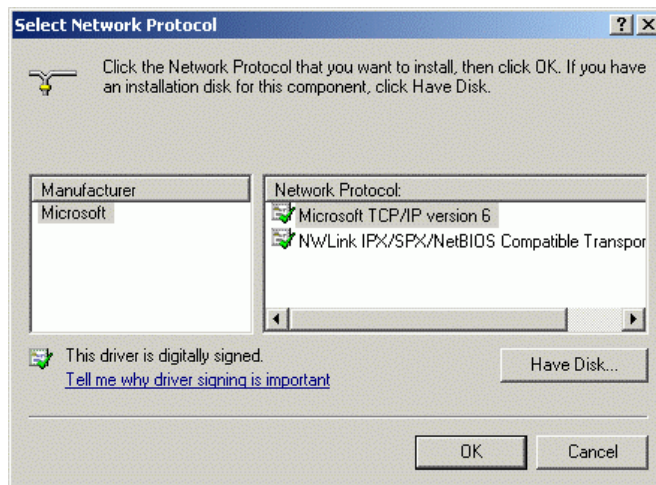

Fig. 2-11: Open installation file
4. In the following window, click on [Have Disk...] to choose the installation file for the Service (see Fig. 2-11).